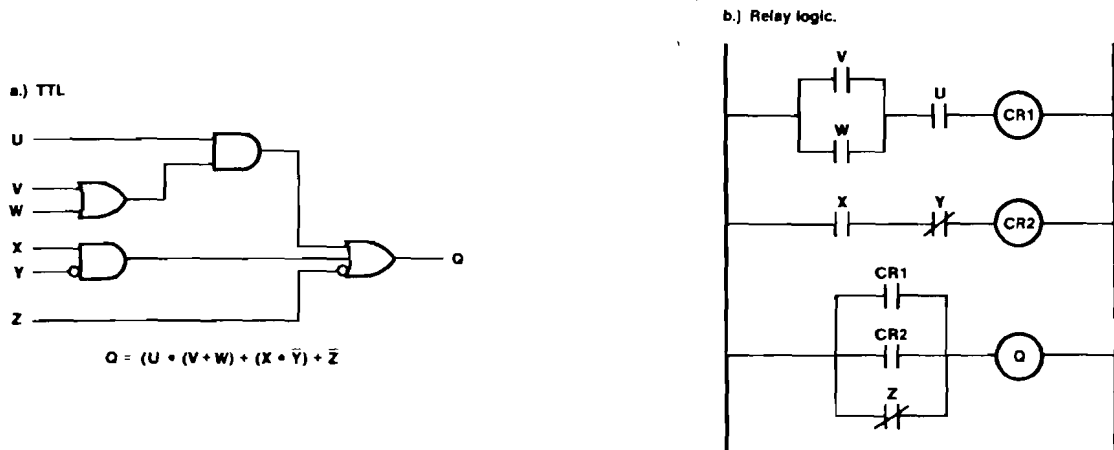

Figure 20. Implementations of Boolean functions
Figure 20 shows the logic diagram for an arbitrary function of six variables named U through Z using standard logic and relay logic symbols. Each is a solution of the equation,
### Example 27—Software Solution to Logic Function of Figure 20, Using only Byte-Wide Logical Instructions
### Example 28—Software Solution to Logic Function of Figure 20, Using only Bit-Test Instructions
These instructions may be "strung together" to simulate a multiple input logic gate. When finished, the carry flag contains the result, which may be moved directly to the destination or output pin. No flow chart is needed — it is simple to code directly from the logic diagrams in Figure 20.
### Example 29—Software Solution to Logic Function of Figure 20, Using the MCS-51 (TM) Unique Logical Instructions on Boolean Variables